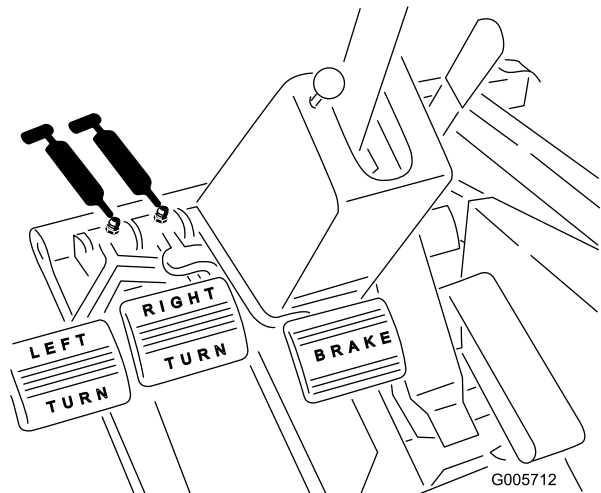

Figure 38
- Brake pivot bushings (Figure 38)